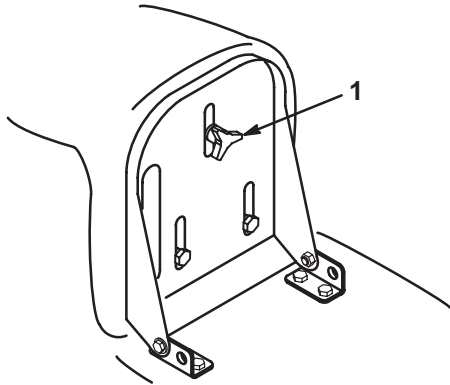

Figure 4
1. Raise the seat and loosen the adjustment knob (Fig. 4).